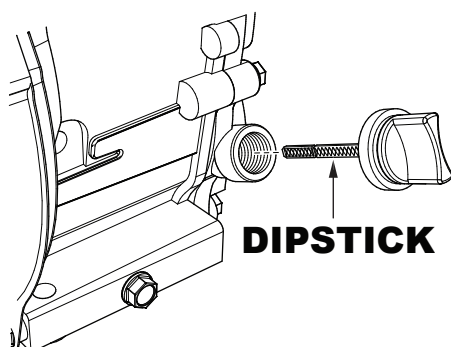

Figure 4. Engine Oil Dipstick
2. Remove the **engine oil dipstick** (Figure 4) from the oil filler hole and wipe it clean.